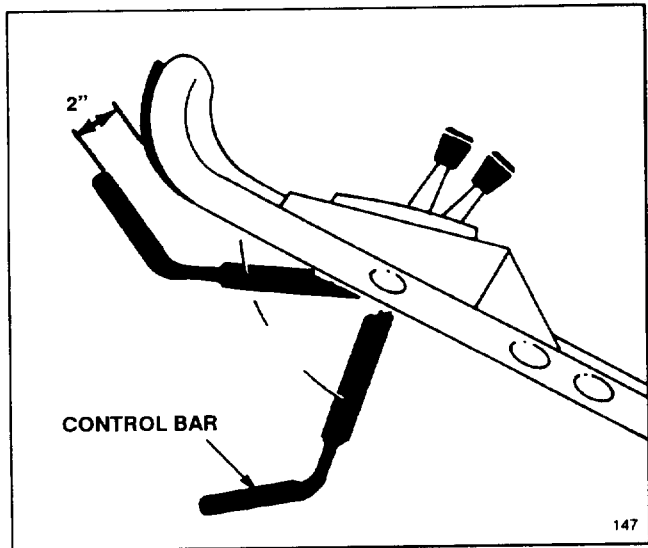

Figure 10
2. Push the control bar down to the lowest position (Fig. 10).